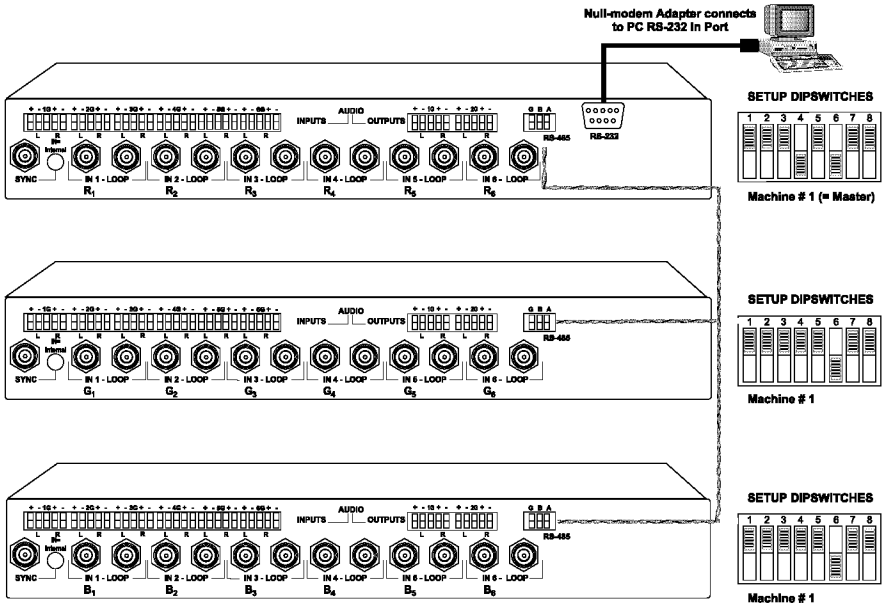

Figure 8: Cascading a set of 3 Units in a (RGB) Parallel Configuration
1. Connect the video sources and acceptors, as well as the appropriate audio sources and acceptors, by reassigning the composite video inputs, 1 to 6, as Figure 8 illustrates, as follows: